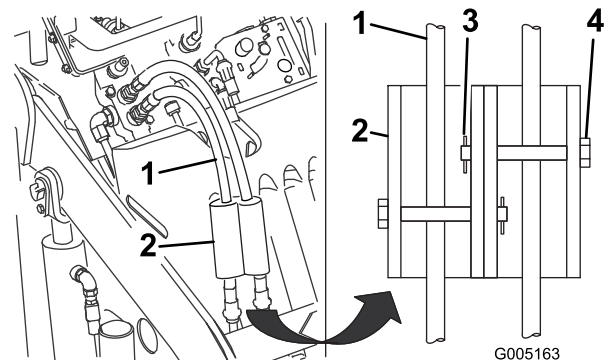

Figure 12
- Install the cylinder locks over the hydraulic hoses and secure them with the clevis pins and cotter pins (Figure 12).